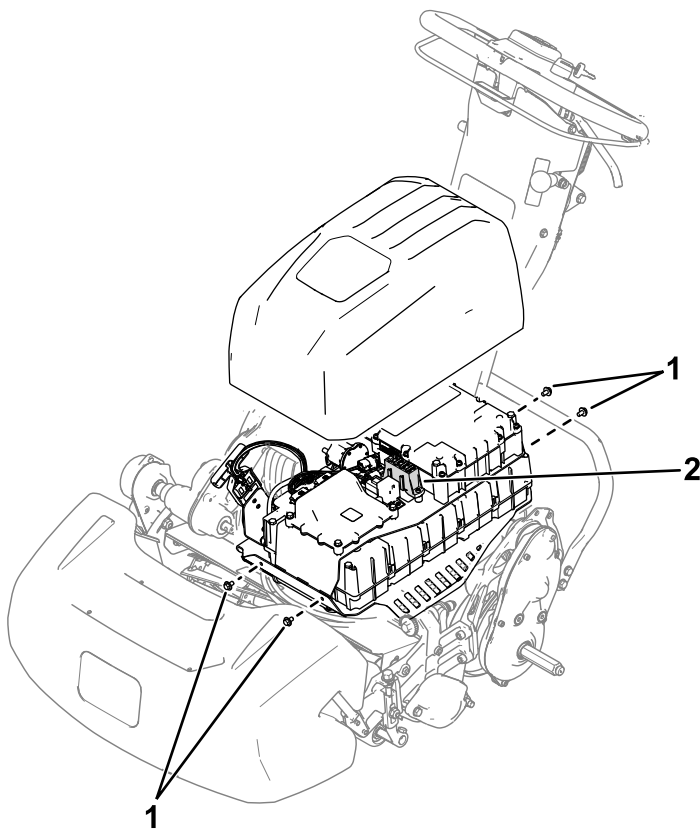

Figure 26
2. Remove the 4 screws (Figure 26) that secure the battery-pack cover and remove the cover.